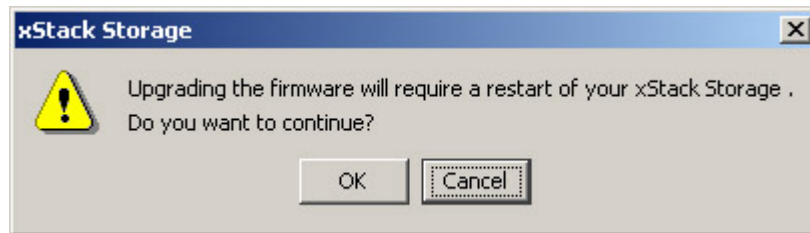

Figure 6-25. Firmware Upgrade Message
7. On the **View** menu, click **Firmware Upgrade**. The message in Figure 6-25 appears.